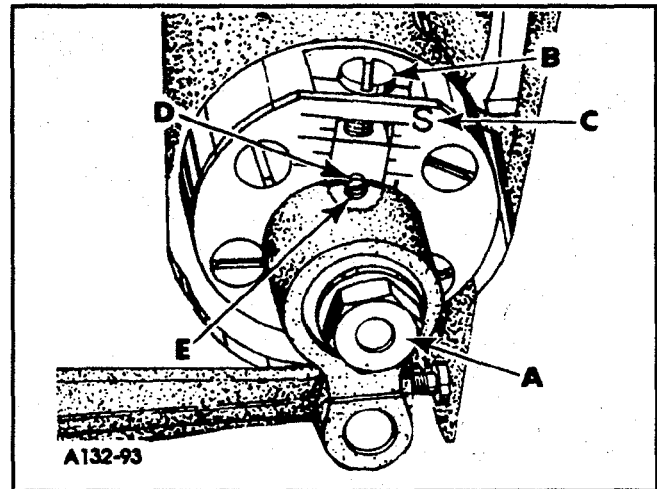

FIG. 13
Set the stitch to required length. This is accomplished by loosening locknut (A, Fig. 13) 1/2 turn (it has a left hand thread) on the end of the stitch regulating stud and turning stitch adjusting screw (B) located under the left end of the cloth plate, in the head of the main shaft (C), which is marked with "L" and "S". Turning the screw clockwise shortens the stitch (moves stitch regulating stud toward the "S") and turning it in a counterclockwise direction lengthens the stitch (moves stitch regulating stud toward the "L"). Retighten locknut securely.
To prevent destructive damage to the feed drive bearing, the Key screw (D) must engage the "U" shaped key slot in the ferrule (E). Torque nut (A, Fig. 13) to 55 in. lbs. (6.2 Nm).